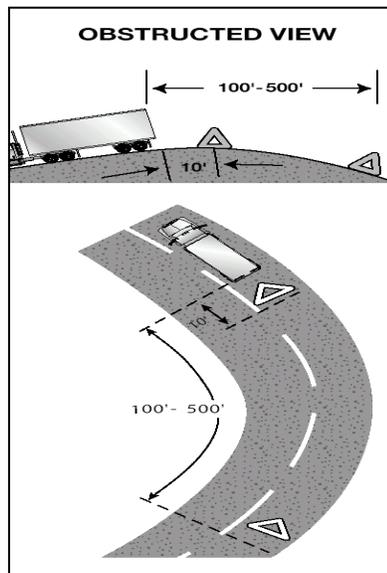

Figure 2.10
- ✓ Back beyond any hill, curve, or other obstruction that prevents other drivers from seeing the vehicle within 500 feet. If line of sight view is obstructed due to hill or curve, move the rear-most triangle to a point back down the road so warning is provided. See Figure 2.10.